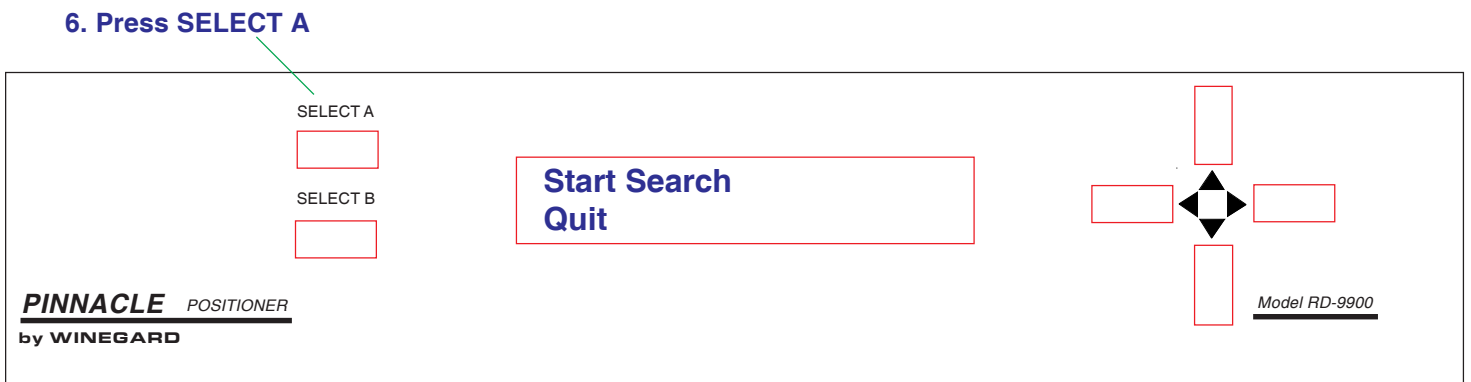

Figure 15
6. Press [SELECT A] Start Search, Figure 15. This will begin the search for the satellite. If you selected the wrong elevation, press [SELECT B] Quit, this will return you to step 3. Repeat 3 through 5 to select the correct elevation.